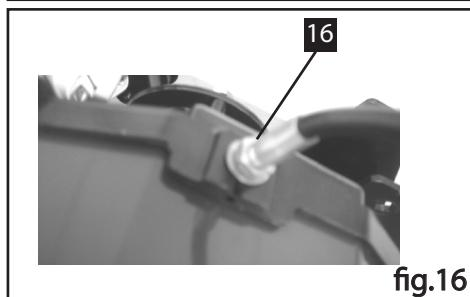

fig.16
- 3) Turn the adjusting nut in figure 16 in a clockwise direction to tighten the wheel clutch; or in a anticlockwise direction to loosen it.